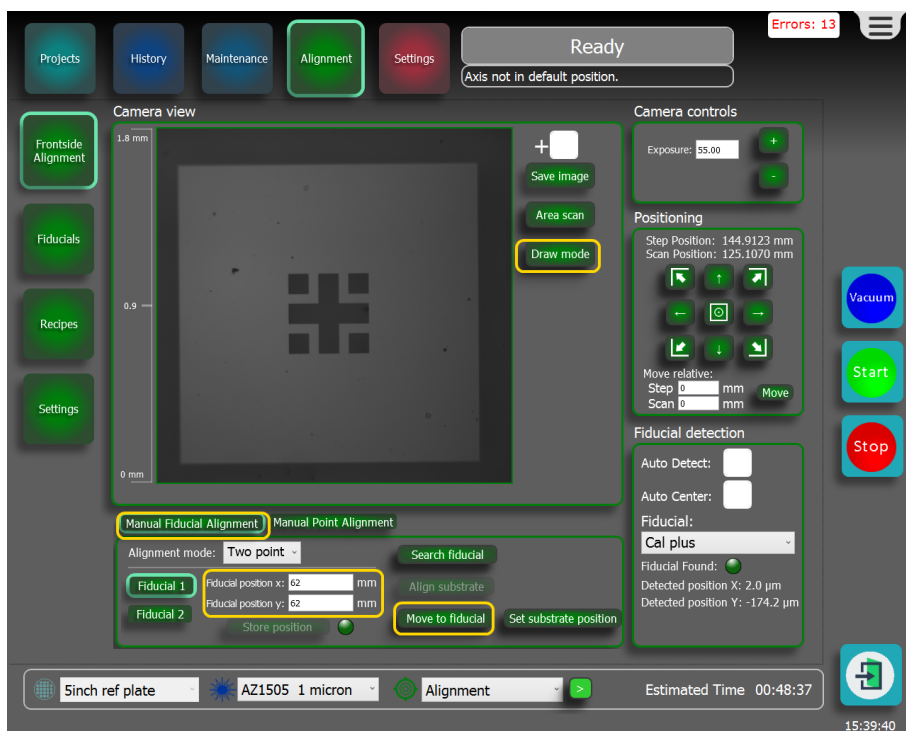

Figure 3-45 Going towards marker position
3. At **Fiducial position x** and **Fiducial position y** (see Figure 3-45), fill in the estimated position on the substrate that you want to move to.